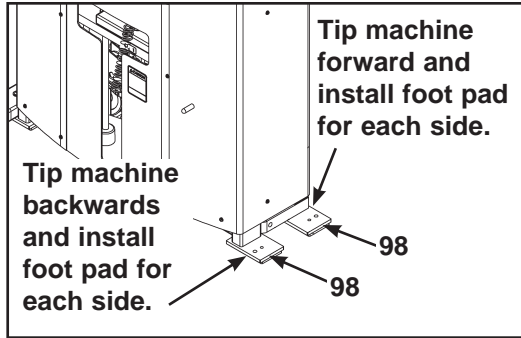

Figure 3
**3. Installing foot pads onto frame (see steps 3A - 3E and Figure 3).**
- B. Carefully tip FT-360S forward (do not exceed 30 degrees) or just enough to install the foot pads. See Figure 3 on next page.
- C. While one person is holding the FT-360S in a tipped position, remove the backing from two of the foot pads and install foot pads 3.00 x 5.00 (#98) onto frame as shown in Figure 3 and then carefully lower FT-360S.